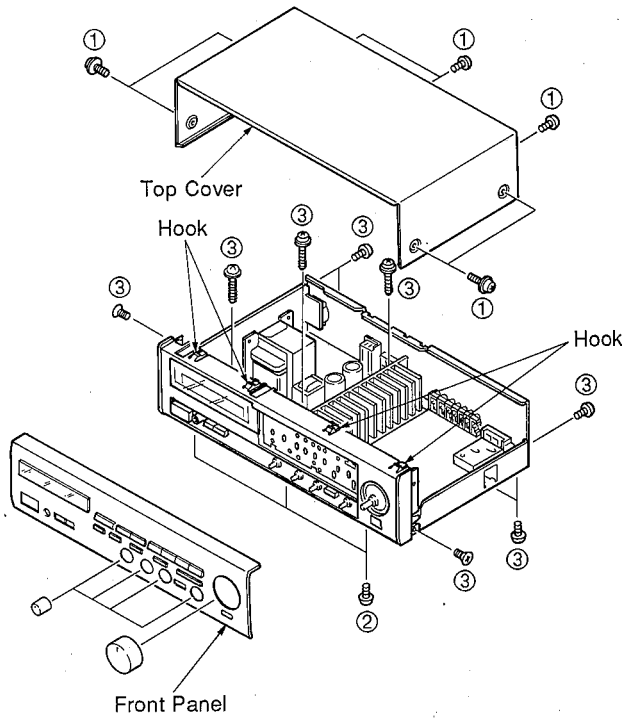

Fig. 1
Remove 7 screws ( ① ) in Fig. 1 and slide the Top Cover back and up.
- b. Remove 3 screws ( ② ) and 4 hooks in Fig. 1, and pull the Front Panel forward.
- a. Remove 13 screws ( ③ ) in Fig. 1.